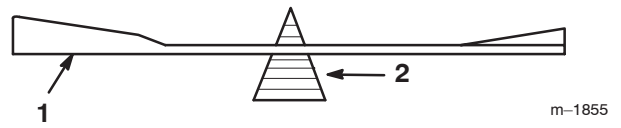

Figure 24
2. Check the balance of the blade by putting it on a blade balancer (Fig. 24).